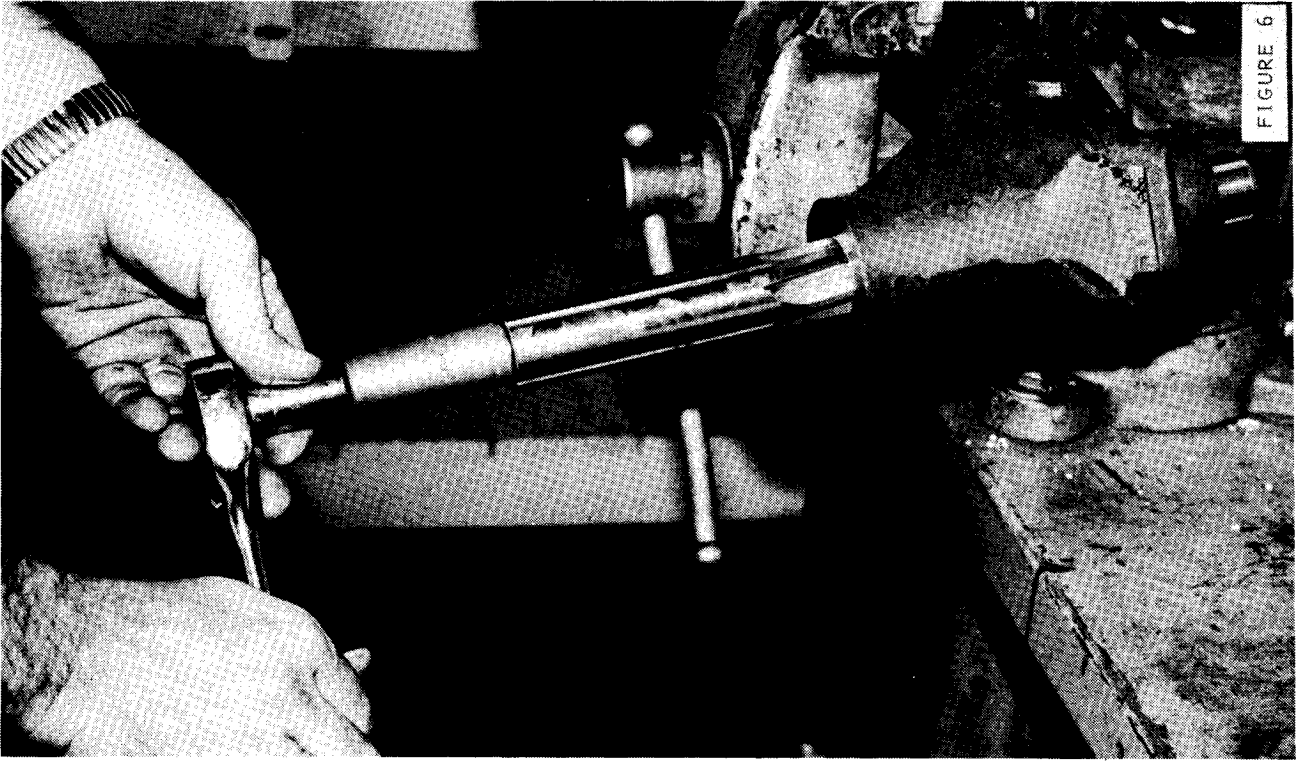

FIGURE 6
7. After both bushings are installed in a control arm, ream to size using reamer J25281. Remember, always turn the reamer in a clockwise direction (Figure 6).